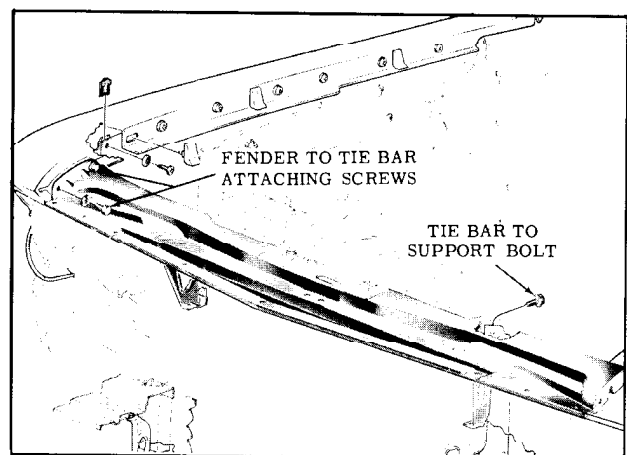

Fig. 11-11 Fender Tie Bar
9. Remove the 2 fender tie bar attaching screws. (Fig. 11-11)